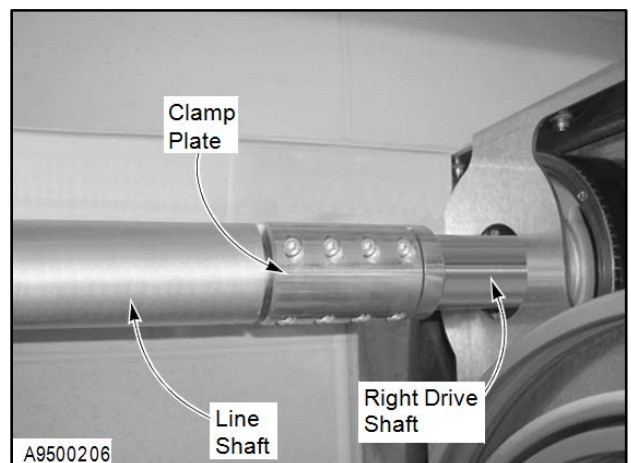

Figure 25
6. Inspect the hardware used to clamp the line shaft to the left and right drive shafts. Tighten the hardware as required. Replace any missing or damaged hardware. (See Figure 25.)